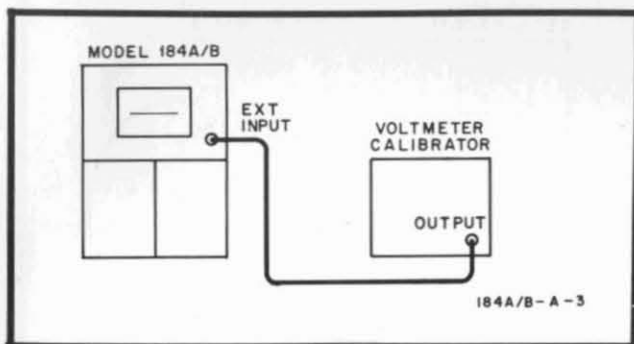

Figure 5-2. Horizontal Magnifier Check
b. Connect 10V p-p signal from voltmeter calibrator output to EXT INPUT (figure 5-2).